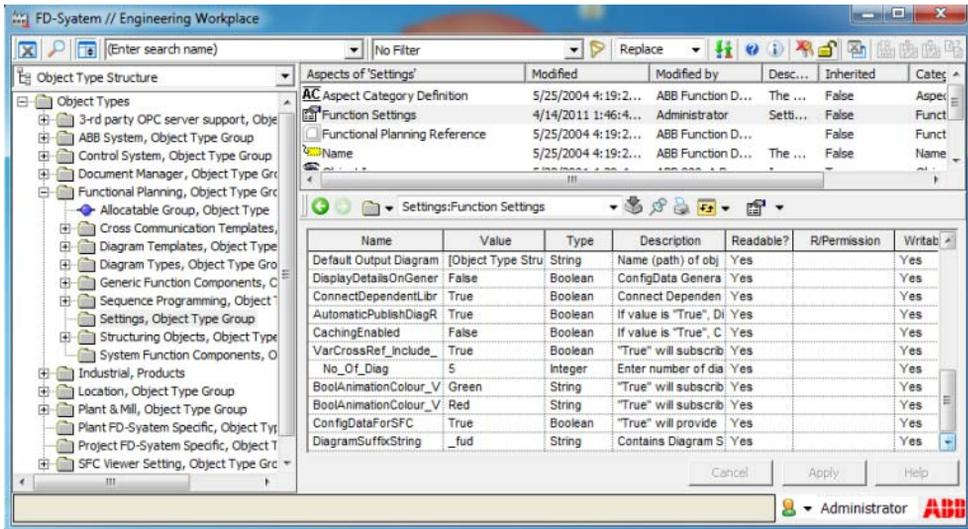

Figure 19. Function Settings with ConfigDataForSFC property
1. Open the **Object Type Structure > Function Planning > Settings > Function Settings** aspect (refer to Figure 19).
To ensure that naming conventions are followed for diagrams, the property `DiagramSuffixString`, available in **Object Type Structure > Function Planning > Settings > Function Settings** aspect, can be used (refer to Figure 19). Set the required suffix in the Value column. This suffix can be used as reference while creating diagrams.